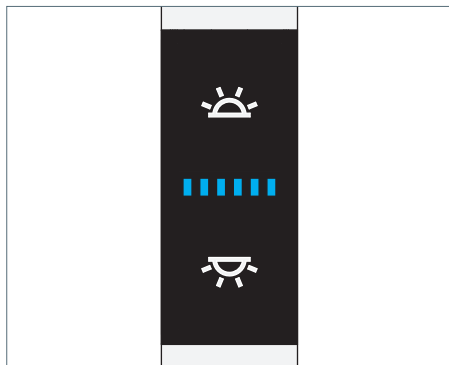

Fig. 10: Operating element.
- Press the upper switch, see Fig. 10.
- Press the upper switch, see Fig. 10
- Press the lower switch, see Fig. 10.
- Press the lower switch and keep it depressed, see Fig. 10.
- Press the upper switch and keep it depressed for at least one second, see Fig. 10.
- Press the upper switch and keep it depressed for at least one second or switch VTL off and on again, see Fig. 10.